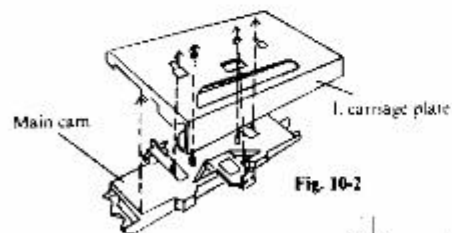

Fig. 10-2
- 1.2 Mount the Main cam to the L carriage plate, on which the above parts are mounted (refer to Fig. 10-2).